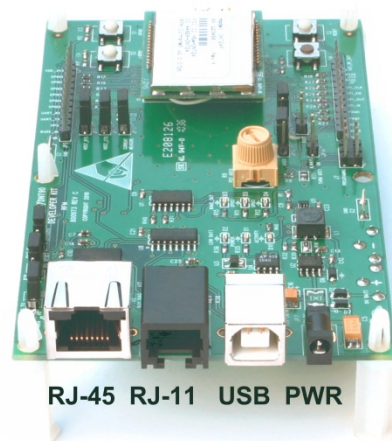

Figure 8.4.3
2. As shown in Figure 8.4.3, there are three serial connectors and a power connector on the end of each interface board. The RJ-45 connector provides an RS232 interface to the DNT24M main serial port. The USB connector provides an optional interface to the radio's main serial port.